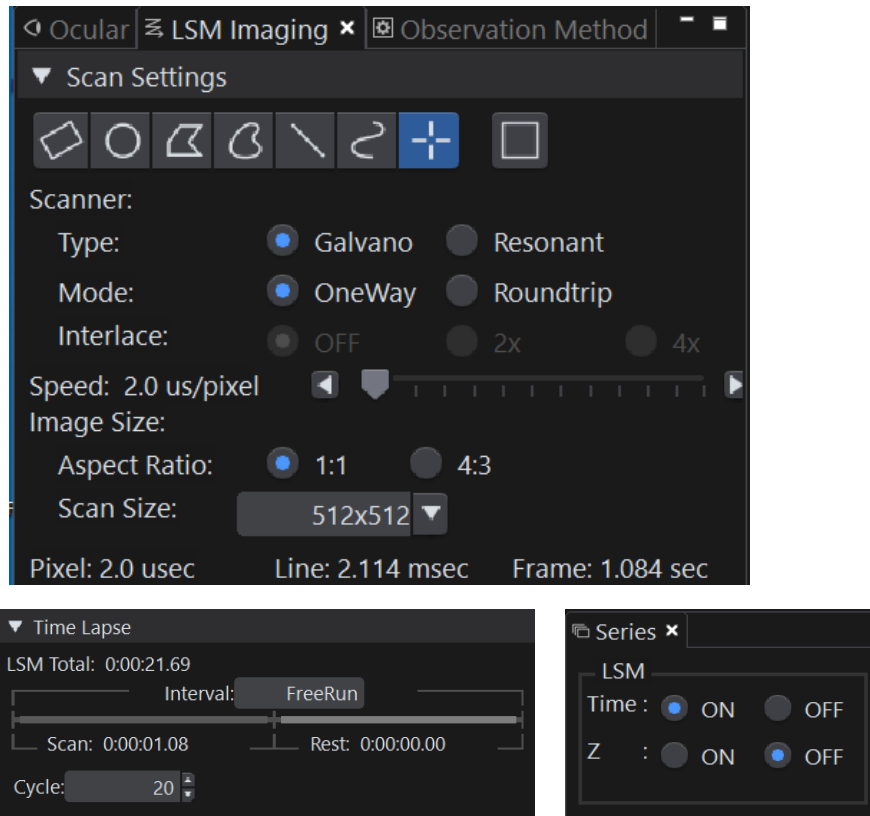

Fig. 2.9: Point Measurement Mode in the FluoView FV4000 software
1. **FluoView FV4000 software:** Select the point measurement mode (cross icon, Fig. 2.9). The measurement time of the point measurement is given by the Frame duration (see Frame, here 1.087s). As lower the scanning speed (here 2 μ s per pixel) and as higher the Scan Size (here 512 x 512), as